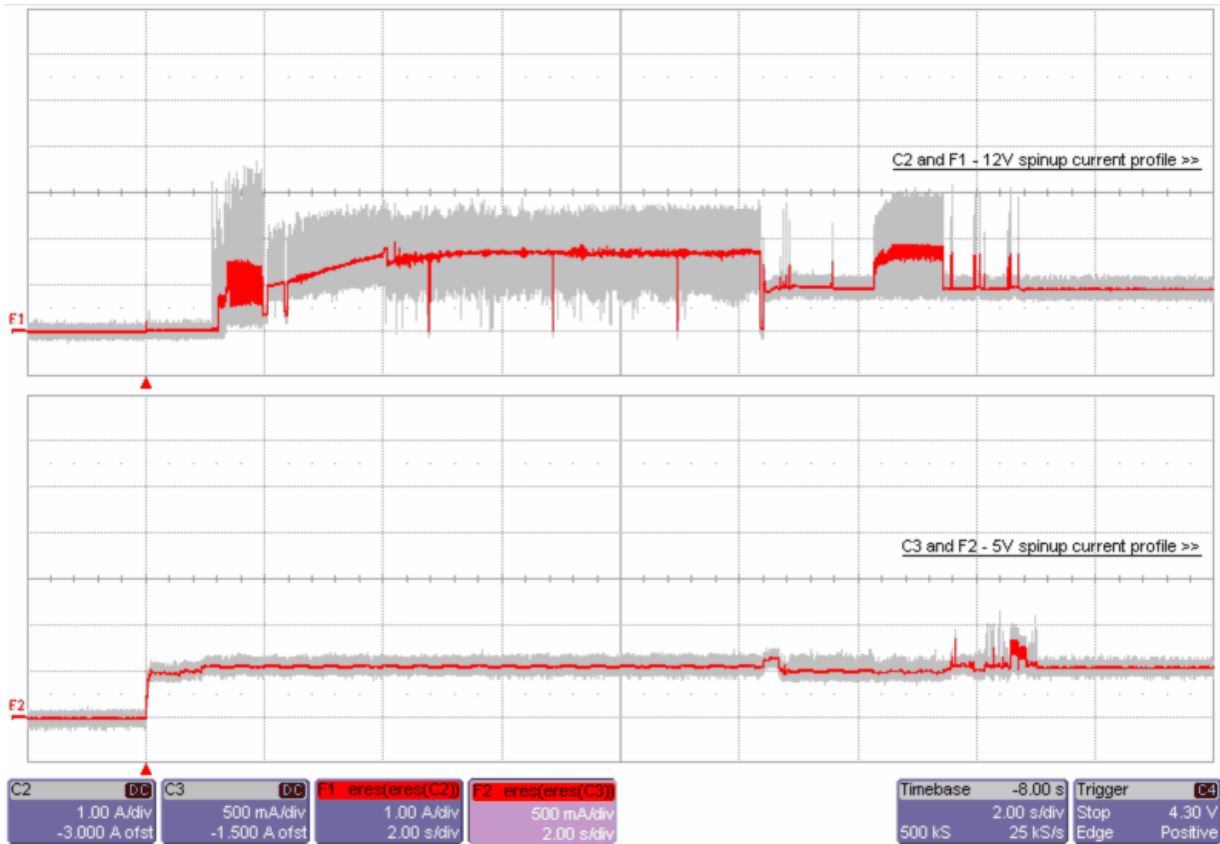

Figure 1. Typical ST3600057FC current profiles
- [3] See +12V current profile in Figure 1.